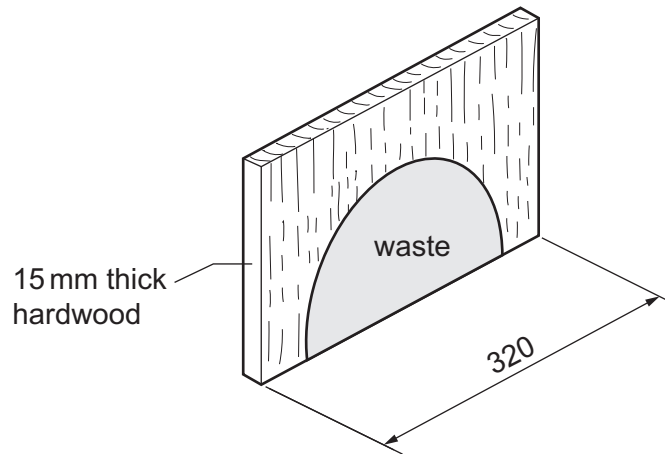

Fig. 13.2
- (c) Fig. 13.2 shows one of the legs with the curved shape marked out, ready to be removed.